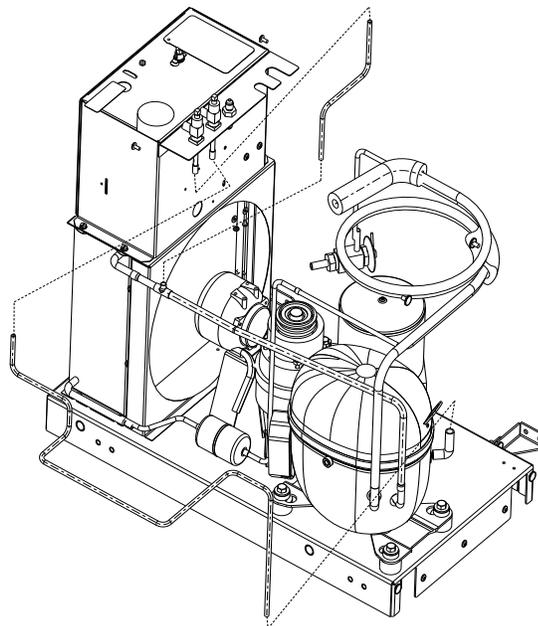

Figure 7. Service Valve Assembly
11. Connect the service valve assembly as shown in Figure 7.